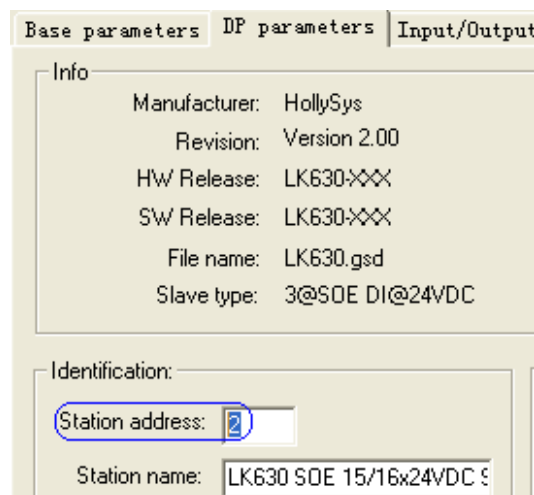

Figure 10.11: Setting of LK630 Communication Address
- As shown in Figure 10.11, the communication address of LK630 module shall be filled into the field "Station Address".